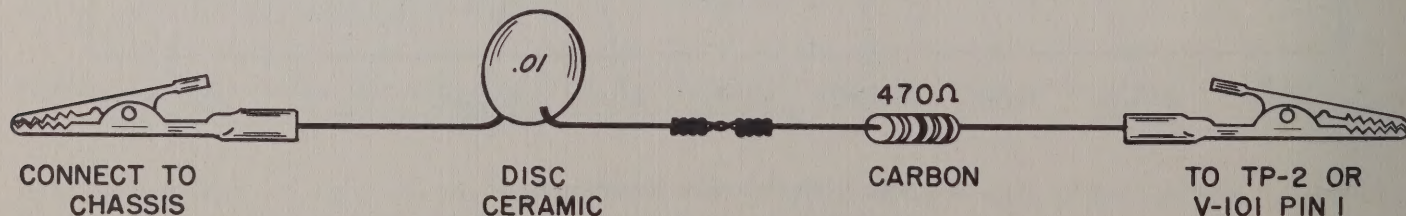

Fig. 5. Test Circuit for I-F Amplifier Alignment
TEST CIRCUIT - - - - -	Shown in Fig. 5.
*NOTE: Temporarily connect the series resistor-capacitor combination shown in Fig. 5 to the tuner test point TP-2 when making this adjustment.
#NOTE: Temporarily connect the series resistor-capacitor combination shown in Fig. 5 to the grid (pin 1) of V-101 the 6CB6 first i-f amplifier when making this adjustment.